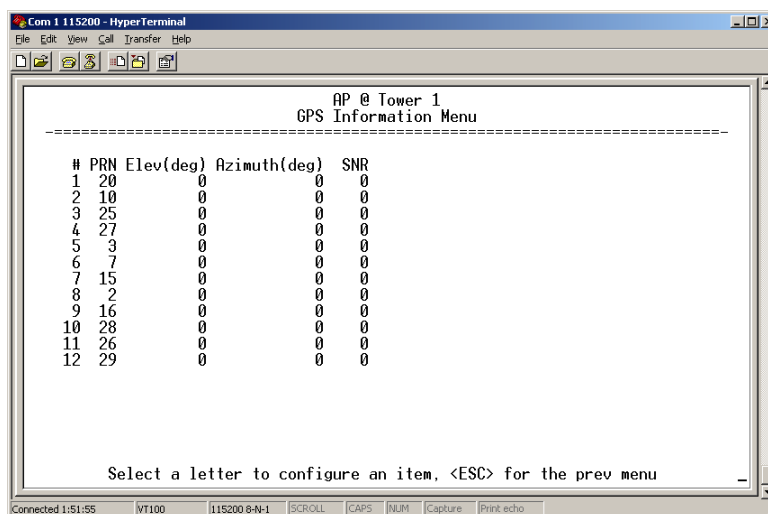

Figure 3-46. GPS Information Menu
- **GPS Information**—Shows data about the individual satellites being received, including the Pseudo-Random Noise (PRN) code (a unique bit stream for each satellite), the satellite’s elevation (in degrees), azimuth (in degrees), and the signal-to-noise ratio of the carrier signal (SNR). Figure 3-46 shows a layout example for this screen.